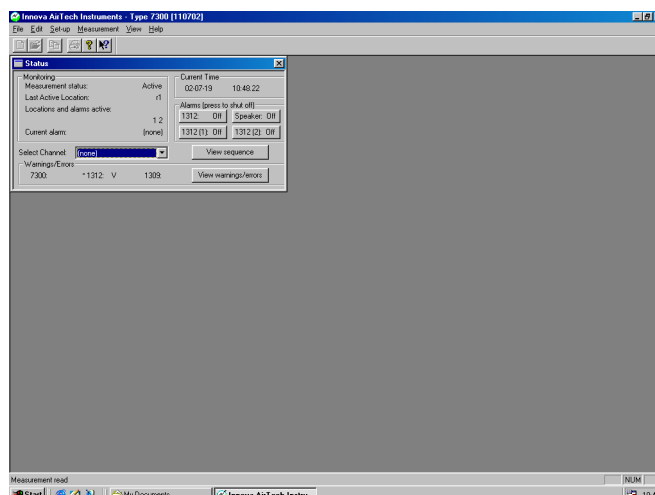

Fig. 5.15 The Status window
1. Pull down the **View** menu and click on **Status window**. The Status window will be displayed in reduced form. The Status window for ventilation mode is shown in Fig. 5.15.